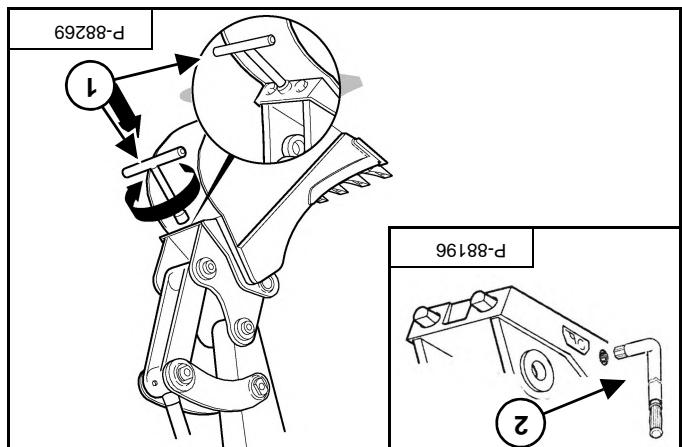

Figure 109
Install the tool (item 1) or (item 2) [Figure 109] and turn clockwise until the locking pins are fully engaged.